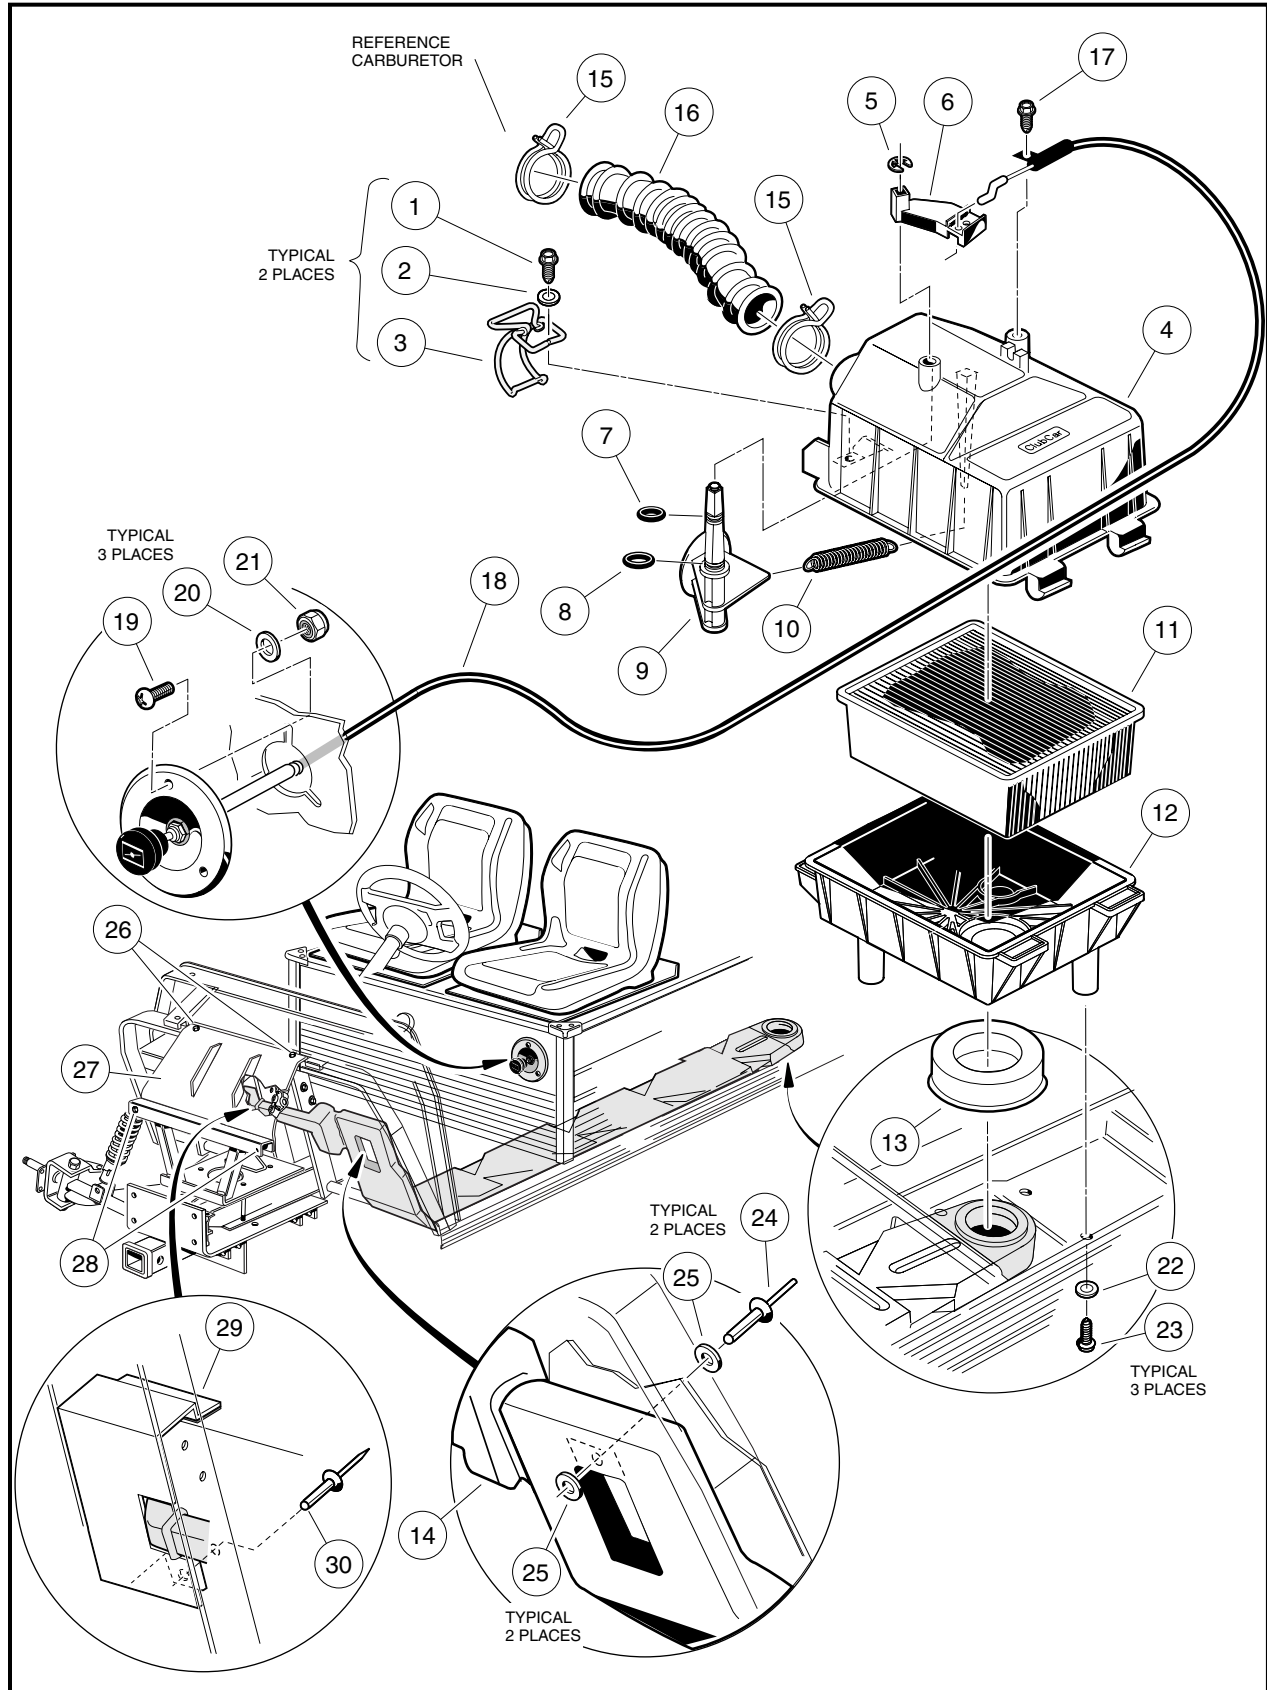
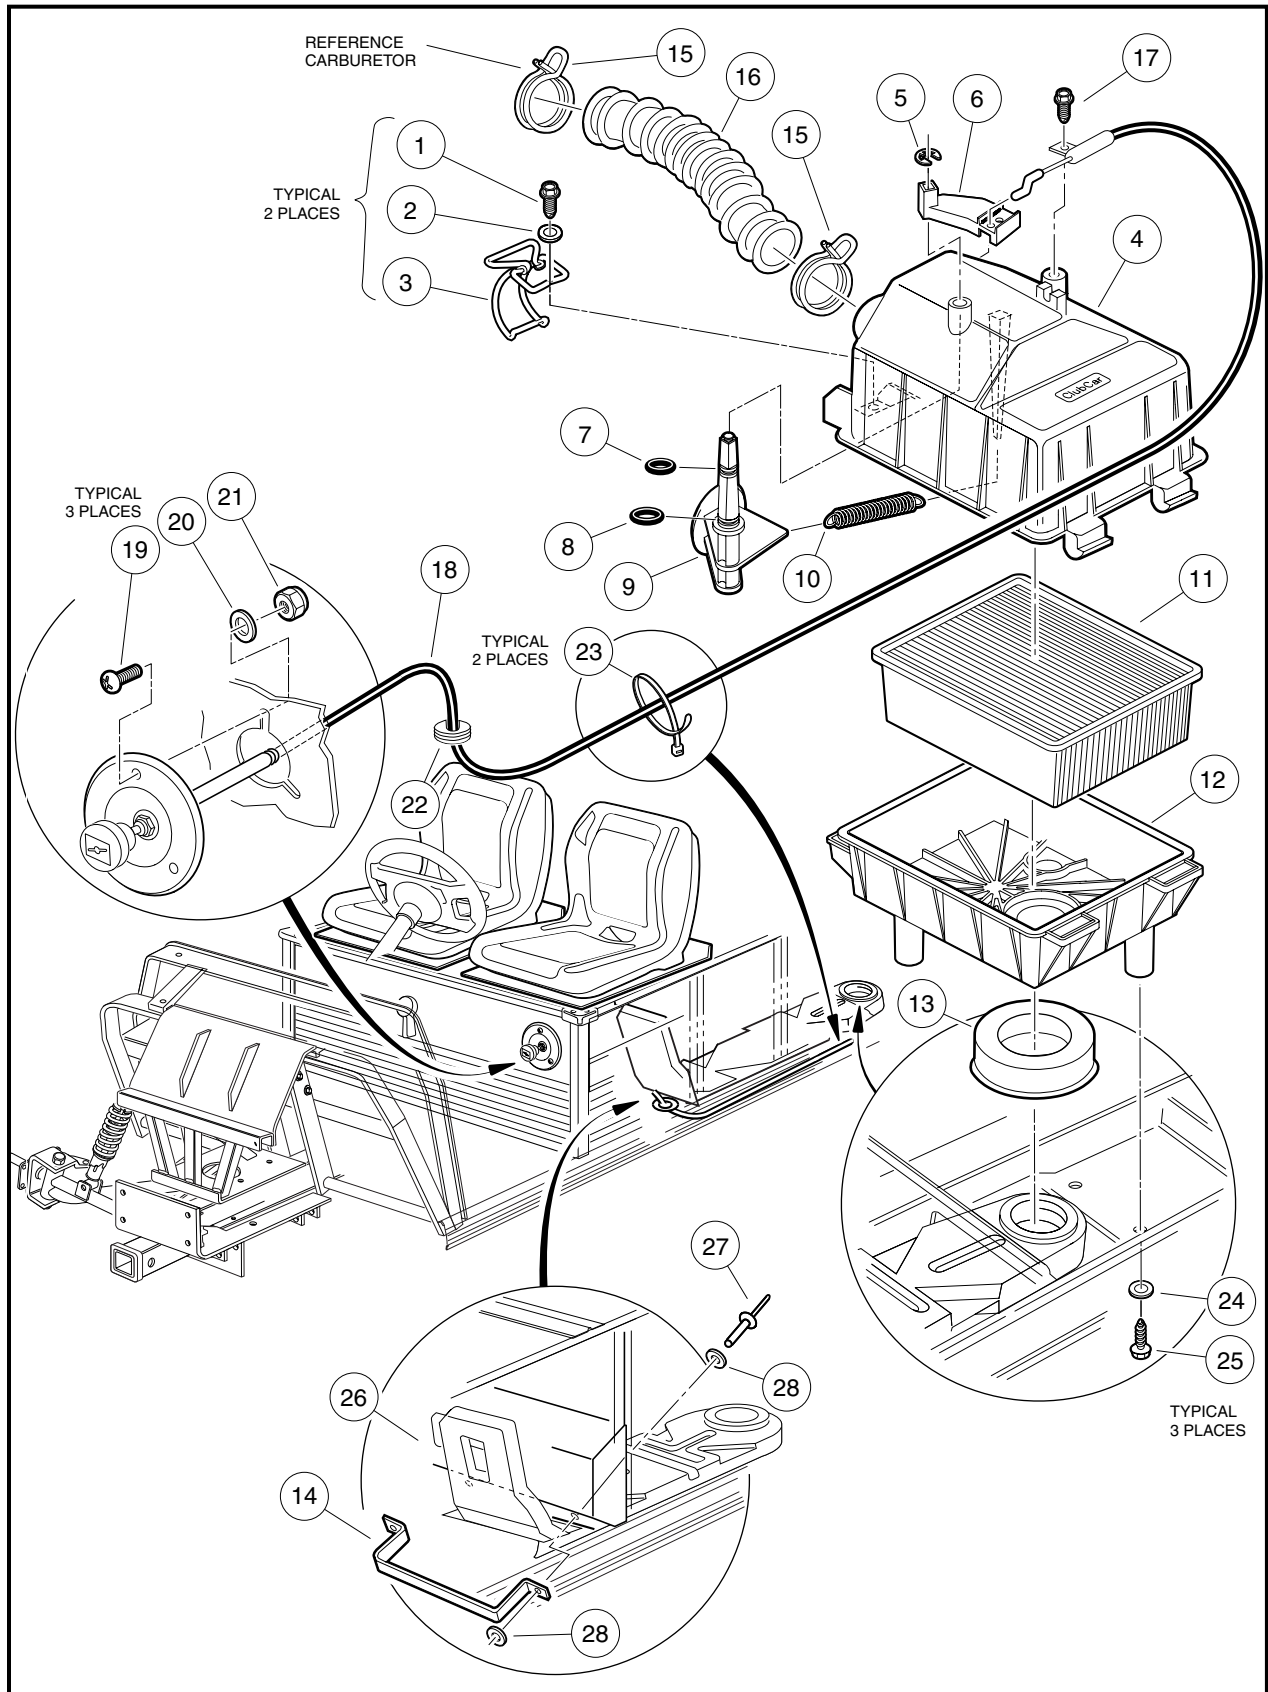

Figure 14-12 Turf/Carryall 272 Air Intake and Choke Assemblies
Figure 14-13 Carryall 472 Air Intake and Choke Assemblies
- 2.13. Drill out the pop rivet (24) securing the top of the intake duct to the floorboard (**Figure 14-12, Page 14-20**).
- 3.1. Remove the air box assembly (**Figure 14-13, Page 14-21**). **See Air Box Removal on page 14-13.**
2. Secure the front of the duct to the underside of the floorboard with pop rivet (24) and flat washers (25) (**Figure 14-12, Page 14-20**).
4. Install the shield to the frame with the adhesive strip and pop rivet (30).
- 6.1. Attach each of the front A-arms to the shock tower at the top shock mount and bottom hole locations of the strip plate (27) using bolts (28) and lock nuts. Do not tighten (**Figure 14-12, Page 14-20**).
- 7.2. Attach strap (14) on each end with 3/16-inch x 1/2-inch pop rivets (27) and washers (28) (**Figure 14-13, Page 14-21**).
2. Lift two latches (3) on the side of the air box (**Figure 14-12, Page 14-20 or Figure 14-13, Page 14-21**).
3. Remove the hose clamp (15) from the air hose and remove hose from the air box assembly.
4. Stand on the driver side of vehicle, grasp air hose mounting inlet and open and remove filter element (11).
7. Fasten wire latches (3) and make sure latches securely engage the bottom half of the box. **See following CAUTION.**
8. Install hose (16) and hose clamp (15) and make sure clamp ends are located in the 12:00 o'clock position (**Figure 14-12, Page 14-20 or Figure 14-13, Page 14-21**).